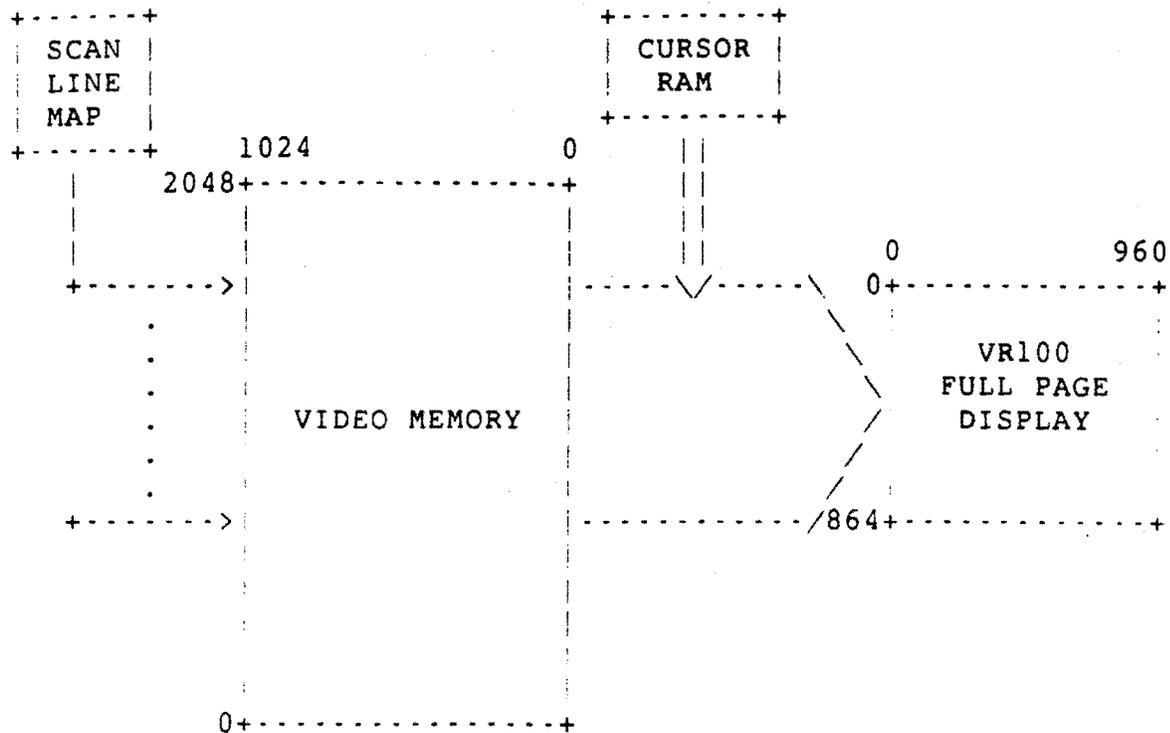

Figure 3-9: Display Mapping
The Video Memory is a 256 kB dual-ported MOS RAM array. It is a single-plane (or 1-plane) bit-mapped memory; that is, the value (on or off) of each pixel on the screen corresponds to the value (1 or 0) of only one bit in memory. Each pixel is defined by its X,Y position in the memory, where Y represents a scan line 1 pixel (bit) high and 1024 pixels (bits) long (X). There are 2048 scan lines in Video Memory (Figure 3-9).
The Scan Line Map comprises two 2 k X 8 static RAMs (refresh is not required). It is configured as a 1 k X 11 RAM; that is the MSB (most significant bit) of the address is disabled, and the five MSBs of the output are not used. It translates the 10 MSBs of the CRTC Start Address Output (video refresh address) into an 11-bit Video Memory physical address; mapping any 864 of the 2048 Video Memory scan lines to the VR100 monitor (Figure 3-9, above). Only the the lower 960 pixels (bits) of the lines are displayed. If the VCB01 is used in half-page mode, the Scan Line Map maps only the lowest 800 pixels of any 480 scan lines to the half-page monitor (see Table 2-9).